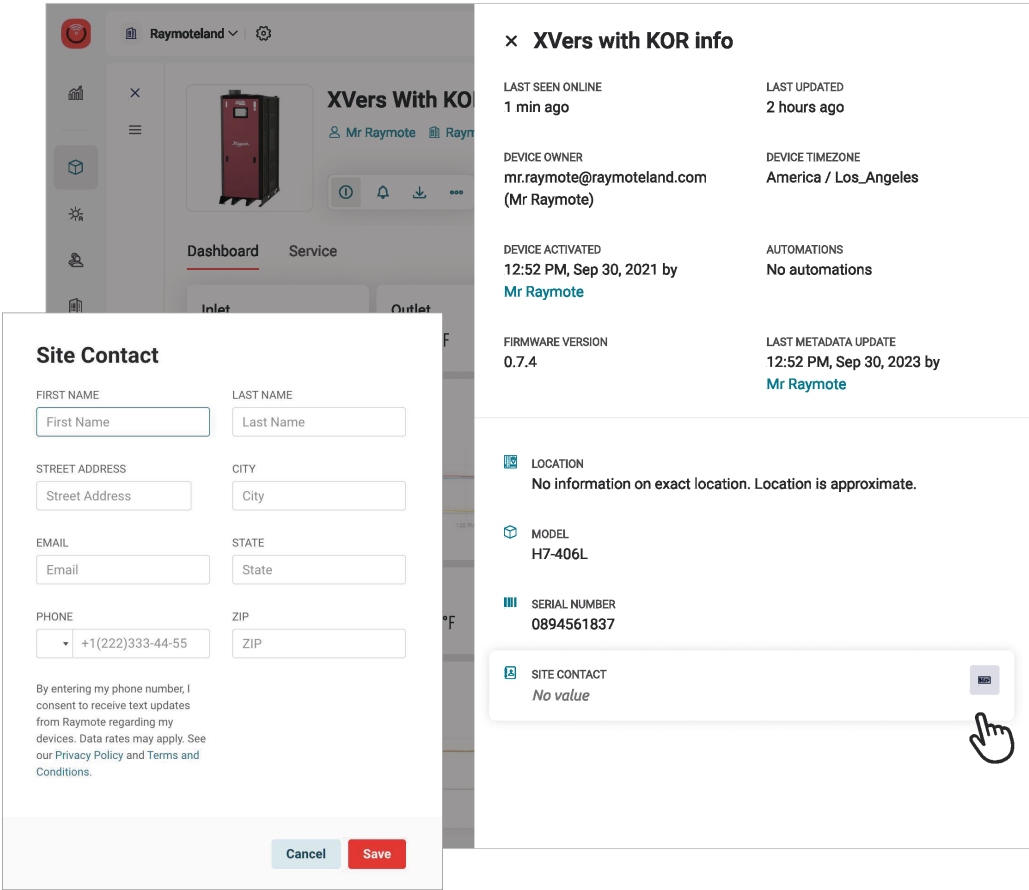

Figure 58. Select Metadata
- 1. Select the "Info" icon from the top menu. See **Figure 58**.